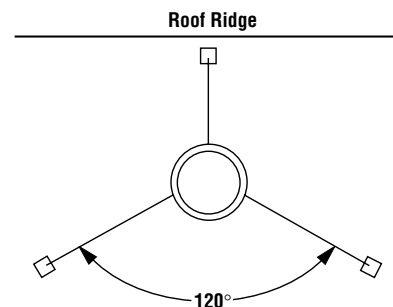

Figure 33
Note: If chimney extends more than 8' above roof surface, guy wires are also recommended. Use three (3) guy wires, attach to locking band assembly, extend and secure to roof in a triangular pattern (Figure 33). Guy wires are not supplied by the manufacturer.